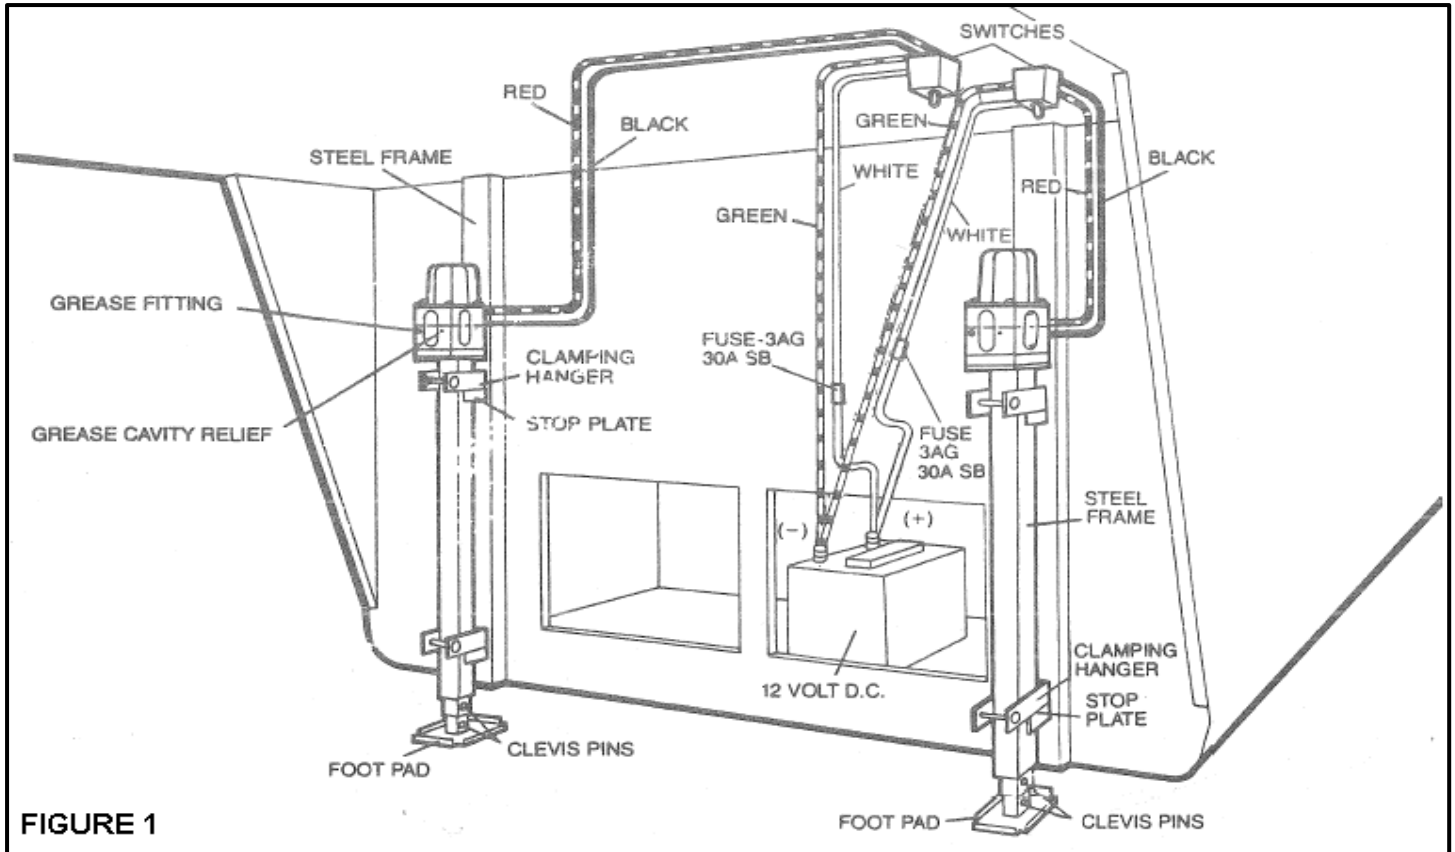

FIGURE 1
3. Mark the exact location for mounting each set of hangers, making sure that the levelers are at the same height and that they are straight vertically. **FIGURE 1.**
NOTE: The Stop Plates must be positioned UNDER the clamping Hangers. FIGURE 1.
7. Wire the Ultra-Fab 5th Wheel Leveler System. **FIGURE 1.**
just begins to flow out of grease cavity relief indicator hole. **FIGURE 1.** Wipe off excess grease.